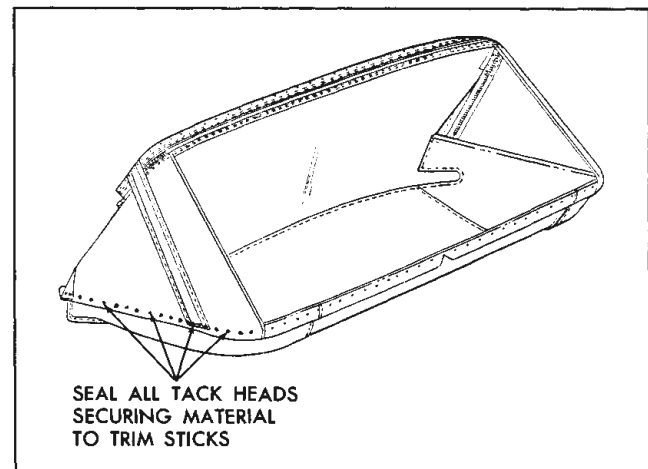

Fig. 22-45 Back Curtain Sealing
23. Apply convertible top sealer (nitrile) around each tack head used to secure back curtain material and webbing to rear and/or rear quarter trim sticks (Fig. 22-45).